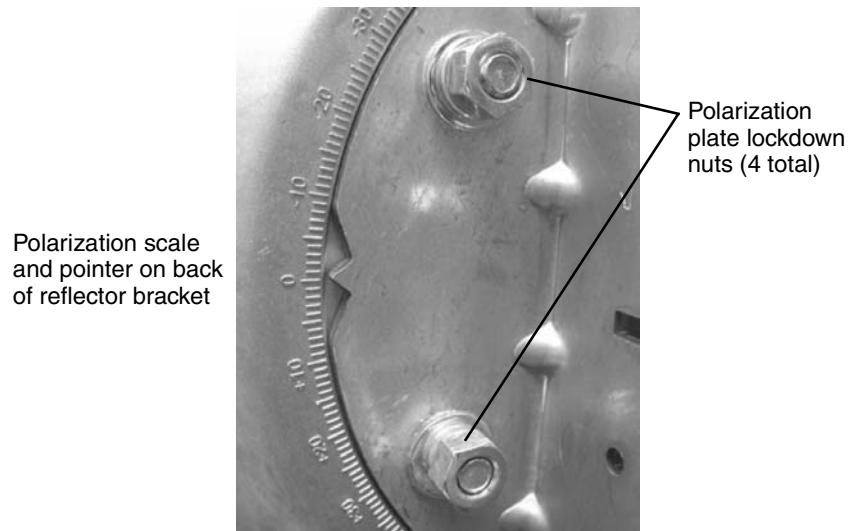

Figure 32: Polarization adjustments on the antenna
Figure 32 illustrates the mechanical polarization adjustments on the antenna.
1. Loosen the four polarization lockdown nuts (two are shown in Figure 32) just enough so you can rotate the antenna reflector a few degrees in each direction.